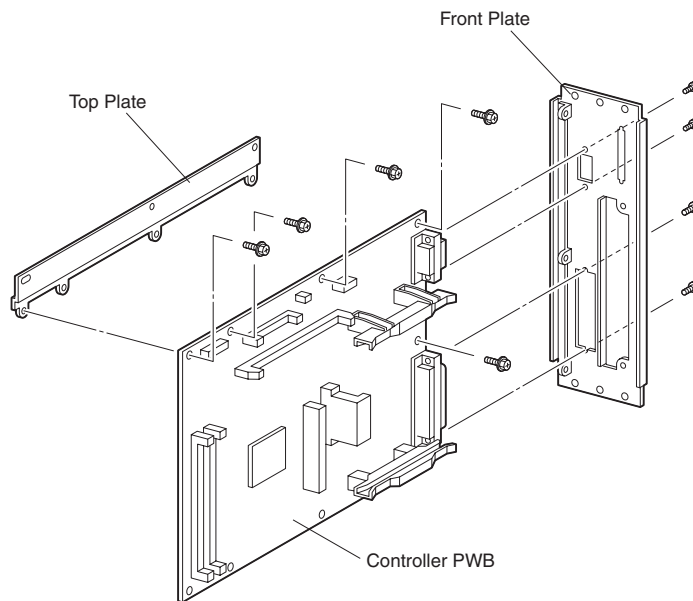

Figure 2
4. Release the latches securing the Fuser Entrance Sensor Holder to the Fuser Tray and remove the Holder (Figure 2).
4. Remove the Fuser Chute Fan from the Fuser Tray (Figure 2).